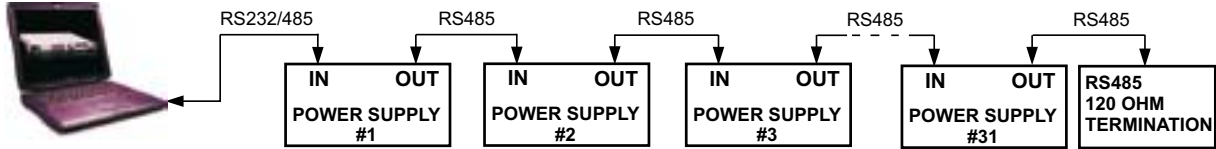

Fig7-5: Multi power supplies RS232/485 connection
2. Other units connection: The other units on the bus are connected via their RS485 interface. Refer to fig.7-5 for typical connection.